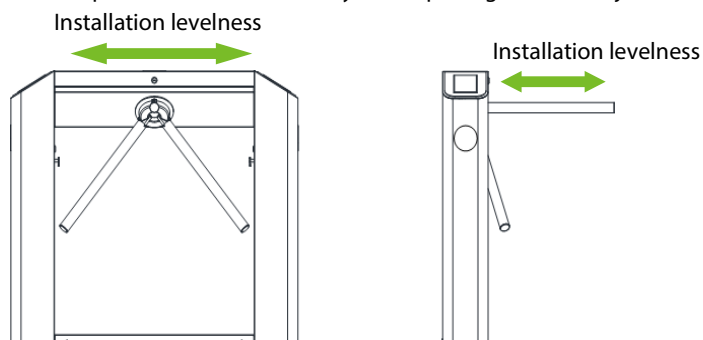

Figure 3-5
- Put the turnstile on the mounting plate and tighten the screws. Apply screw securing glue before using and putting gaskets on the screws to adjust the direction of the turnstile. If the tripod turnstile is not level, you can place gaskets to adjust, as shown in figure 3-5.